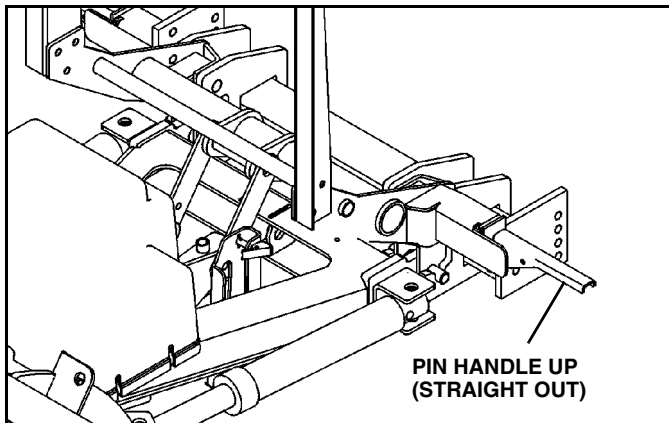

Figure 1-27
4. Rotate pin handles up (straight out) to unlock main pins. (See Figure 1-27).